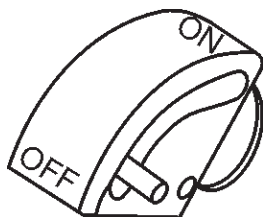

Figure 22. Centrifugal Kill Switch
- Place the **centrifugal kill switch** (Figure 22) in the "ON" position. For models that use this feature.